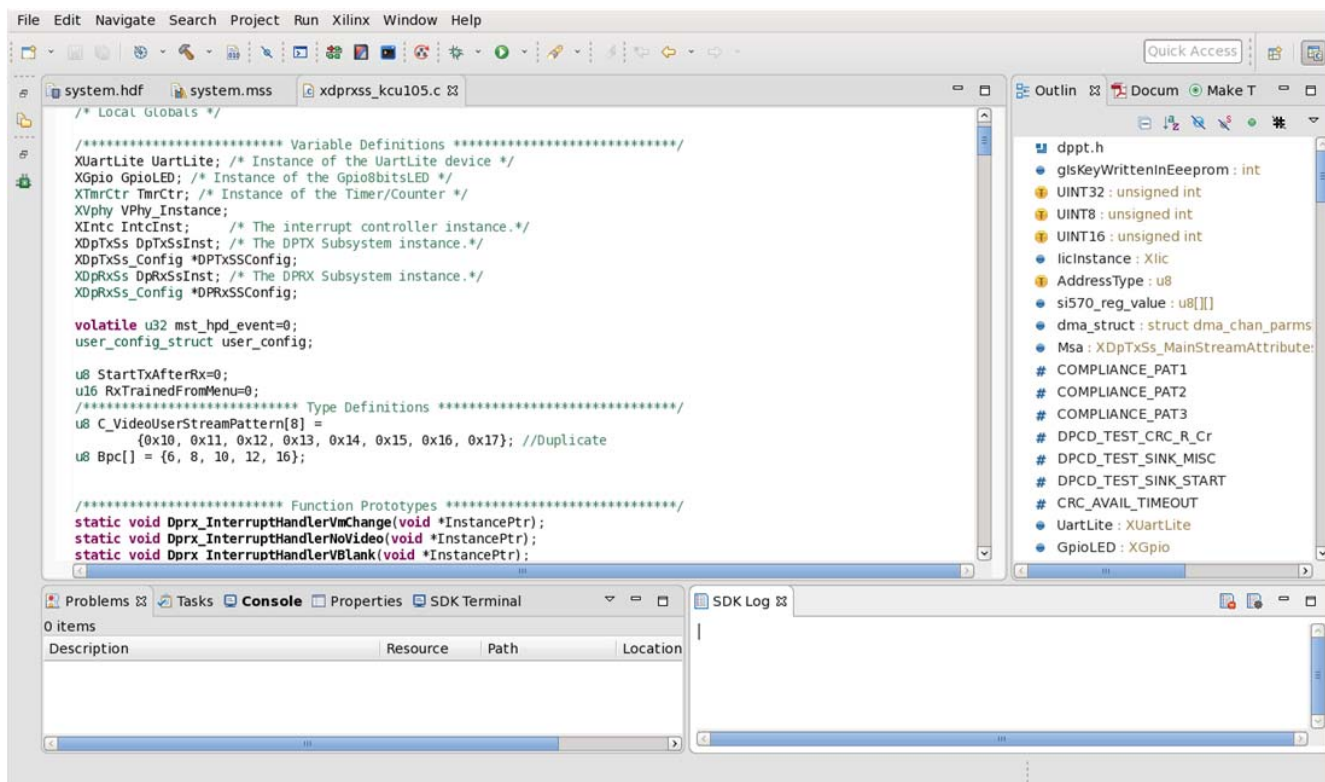

Figure 5-17: Successful Application Example Design
18. Figure 5-17 shows the example application successfully built and ready to use.